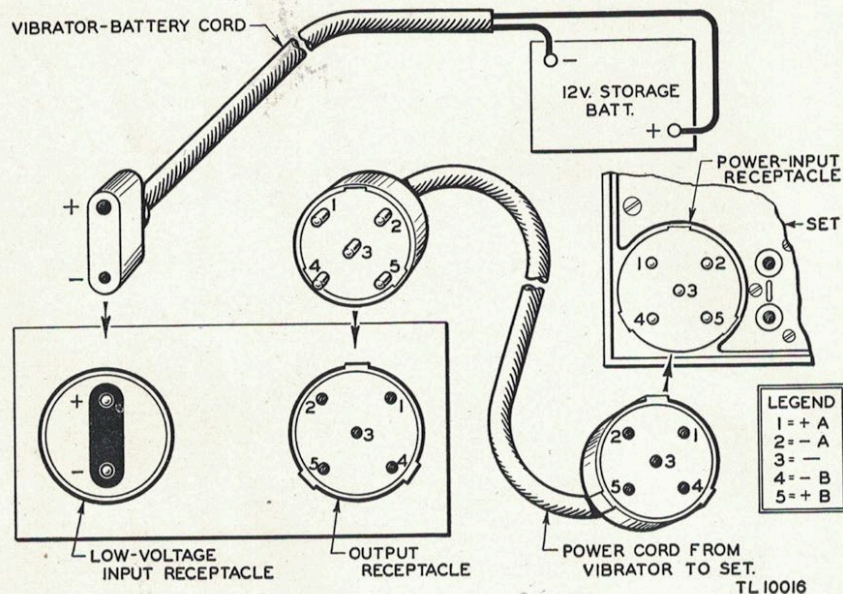

Figure 4. Cording diagram for use of vibrator supply with German radio set Torn. E. b.
(2) The 12 volts supplied is reduced to the proper value for the tube filaments by a series-dropping resistor contained in the vibrator power supply. The filament voltage is held to a steady value by an **Eisenwasserstoffwiderstände** (ballast tube) in series with the tube filaments and the dropping resistor. The filament circuit is protected by a **Sicherungen 2 amp.** (fuse, 2 amp).
(3) The cording for use of the vibrator supply is shown in figure 4.
- (1) Install and connect **Umformersatz EWc** to the storage battery and the set, as shown in figure 4.
- (2) Connect vehicular antenna to **A** (antenna) jack on set.
- (3) Connect a wire between vehicle chassis and **G** (counterpoise) jack of set.
- (4) Plug the headset into any of the jacks marked **Fernhörer** (headphones). Align plug with white line. Any high-impedance headset is satisfactory. The set is now installed and ready for operation.